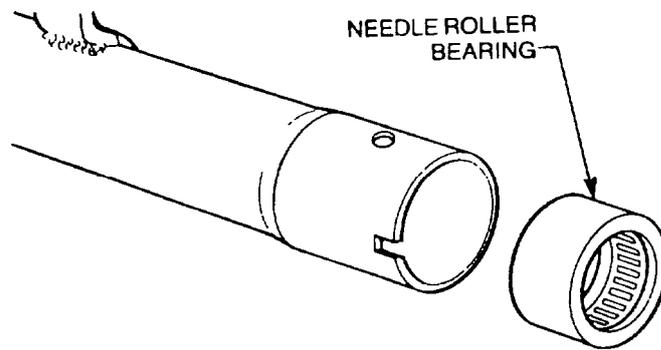

Figure 90 Upper Column Bearing Removal
- d. Using a suitable drift, drive the needle roller bearing from the outer column (Figure 90).